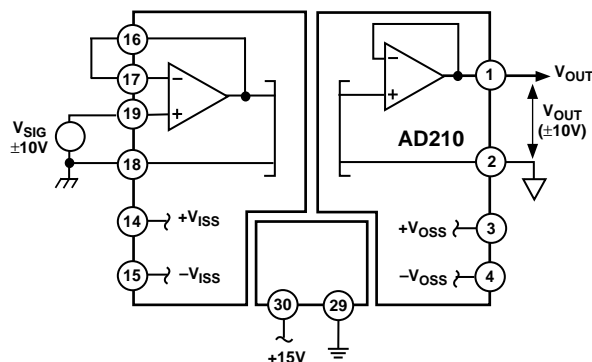
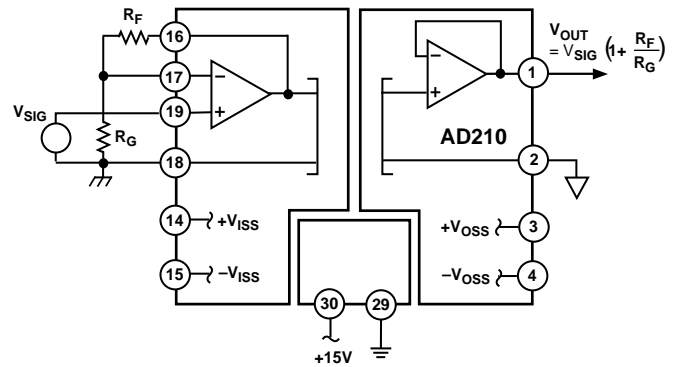

Figure 2. Basic Unity Gain Configuration
Figure 3. Input Configuration for  $G > 1$
**Input Configurations:** The basic unity gain configuration for signals up to ±10 V is shown in Figure 2. Additional input amplifier variations are shown in the following figures. For smaller signal levels Figure 3 shows how to obtain gain while maintaining a very high input impedance.
The high input impedance of the circuits in Figures 2 and 3 can be maintained in an inverting application. Since the AD210 is a three-port isolator, either the input leads or the output leads may be interchanged to create the signal inversion.